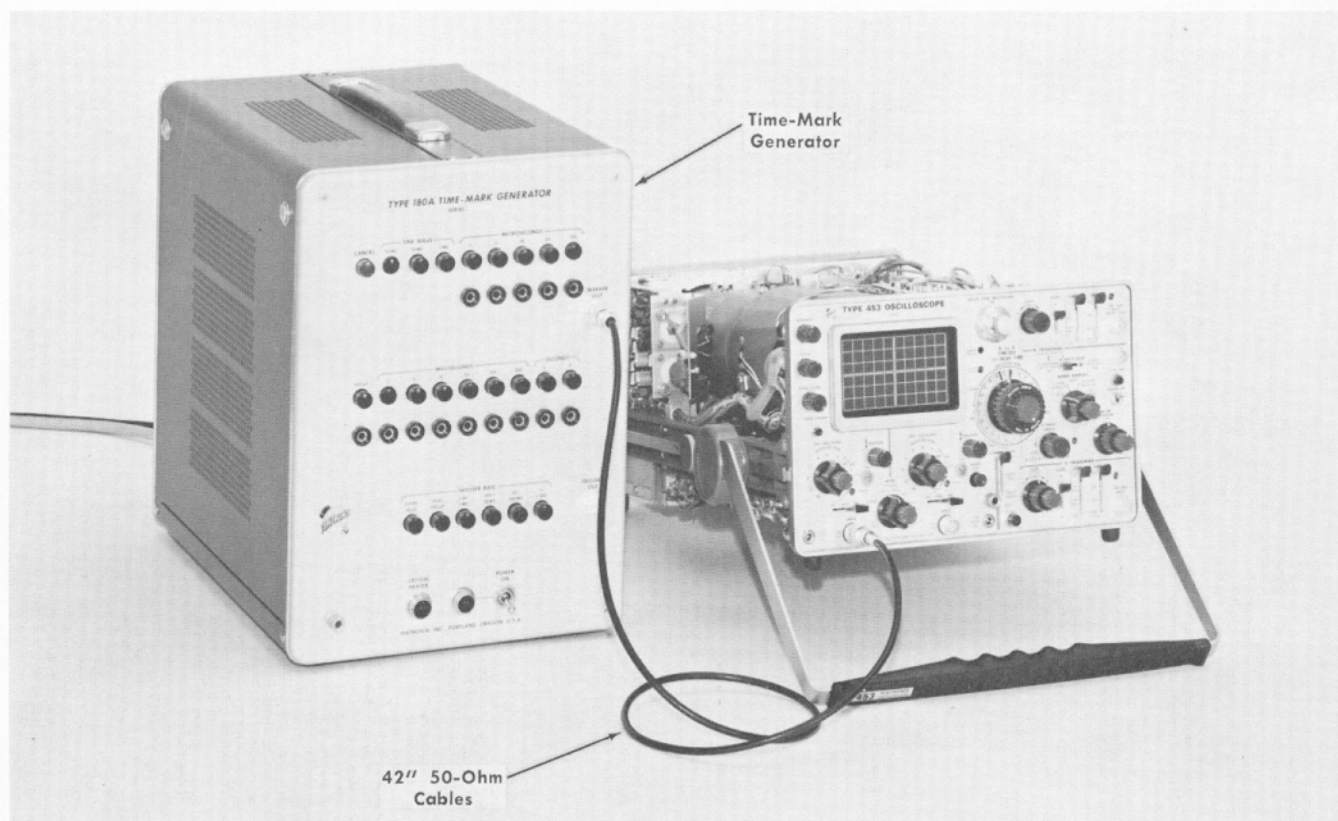

Fig. 6-14. Initial test equipment setup for steps 9 through 13.
- Test equipment setup is shown in Fig. 6-14.